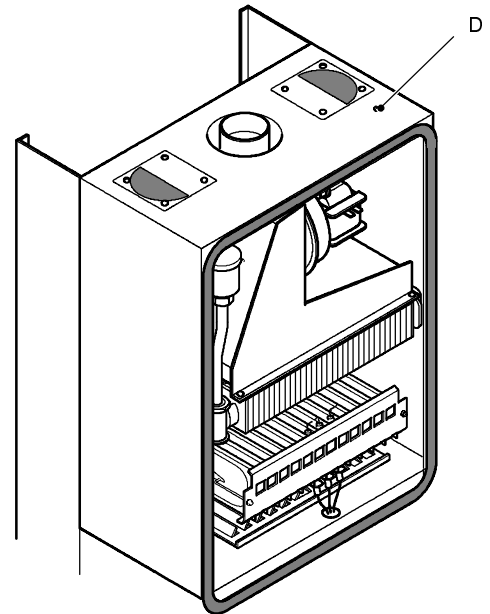

fig. 76a
- 4 Unscrew the screw *D* which holds the air pressure switch mounting bracket to the frame (fig. 76a);